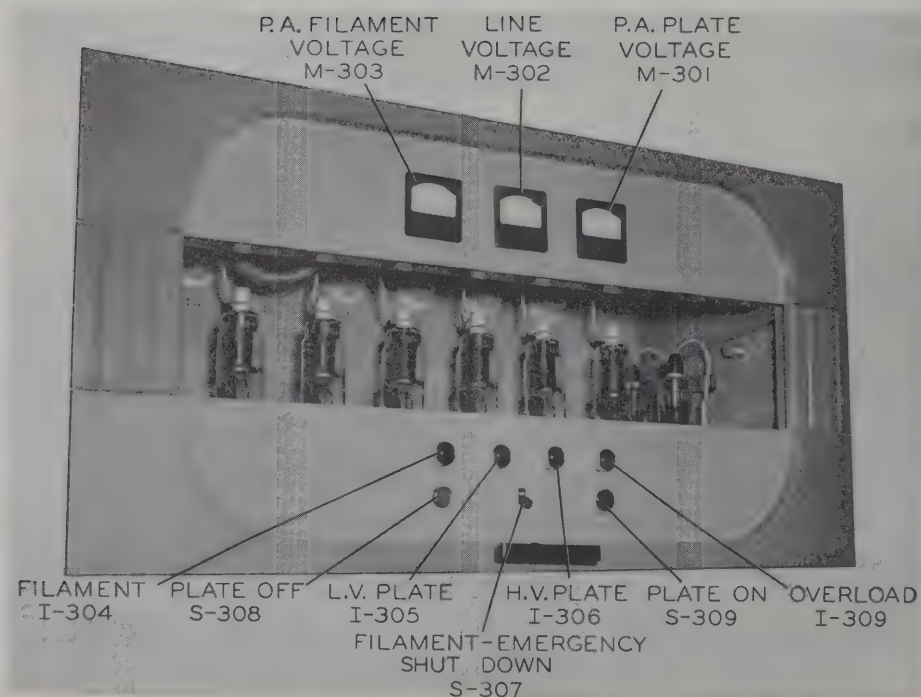

Figure 29. Upper Front Panel, Power Supply Assembly PP-1088/FRT-26 Controls.
*e. Power Supply Assembly PP-1088/FRT-26 (figs. 29 and 30).*
e. Power Supply Assembly PP-1088/FRT-26 (figs. 29 and 30). (contd)